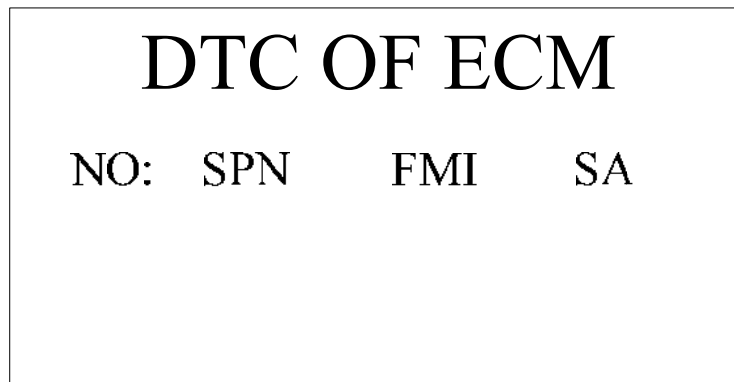

Figure-8 ECM Code
3.1.6 The seventh, eighth, ninth, tenth and eleventh interface display ECM, TCM, ABS, AIR, Retarded information. as shown in Figure-8, 9, 10, 11, 12.